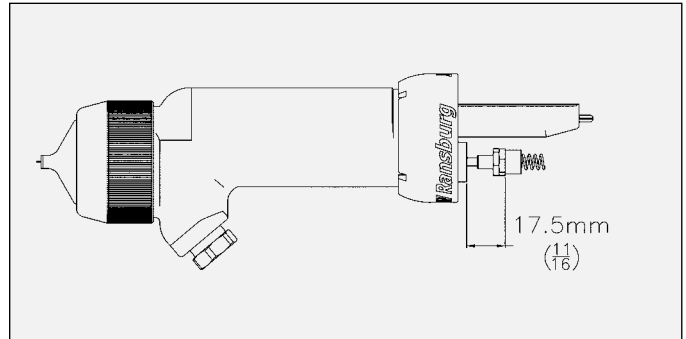

Figure 29: Trigger Adjustment Nut Dimensions
21. Adjust the needle shaft spring retainer until the rear of the hexagon is 11/16-inch from the rear surface of the barrel packing chamber (refer to Figure 29).